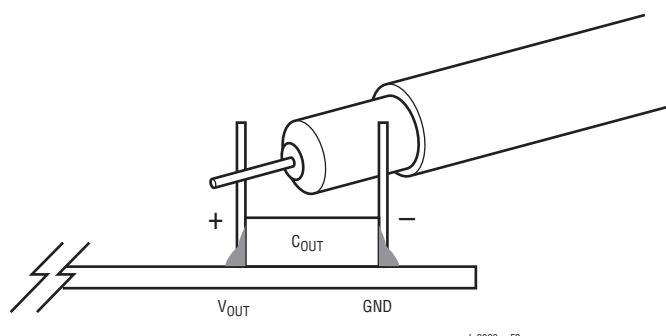

Figure 2. Measuring Output Voltage Ripple
1. When measuring the output or input voltage ripple, do not use the long ground lead on the oscilloscope probe. See Figure 2 for the proper scope probe technique. Short, stiff leads need to be soldered to the (+) and (-) terminals of an output capacitor. The probe tip needs to touch the (+) lead.